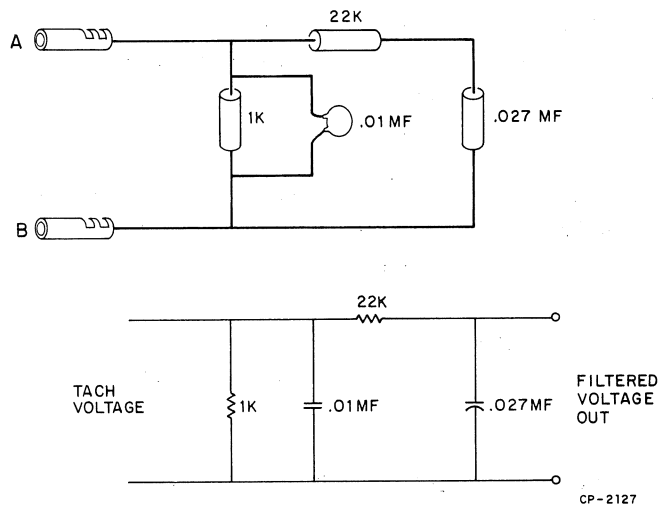

Figure 5-63 Tachometer Filter Circuit
2. Tachometer filter circuit (Figure 5-63).
4. Connect the +5 jumper to the red motor lead, the GND jumper to the black motor lead. Connect filter lead A (Figure 5-63) to red tachometer lead, and filter lead B to black lead. Connect scope probe and ground strap across the 0.027 mF capacitor (Figure 5-63).